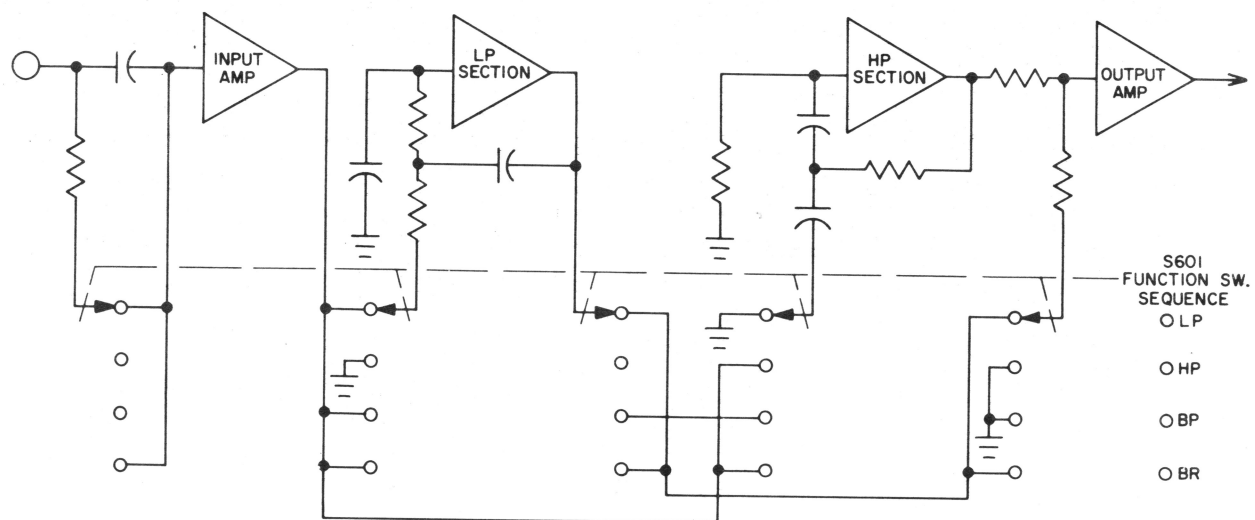

Figure 4-1. Model 3750 Function Selection Diagram
The Krohn-Hite Model 3750 Filter consists of an Input Amplifier, a Low Pass Section, a High Pass Section, an Output Amplifier, and a Power Supply. The switching of the various filter functions is shown in figure 4-1. In the Low Pass (LP) mode, the signal is applied to the Input Amplifier, through the Low Pass Section to the Output Amplifier. In the High Pass (HP) mode, the signal is applied to the Input Amplifier, through the High Pass Section to the Output Amplifier. In the Band Pass (BP) mode, the LP and HP sections are connected in series. In the Band Reject (BR) mode, the LP and HP sections are connected in parallel, and their outputs are added at the input to the Output Amplifier.